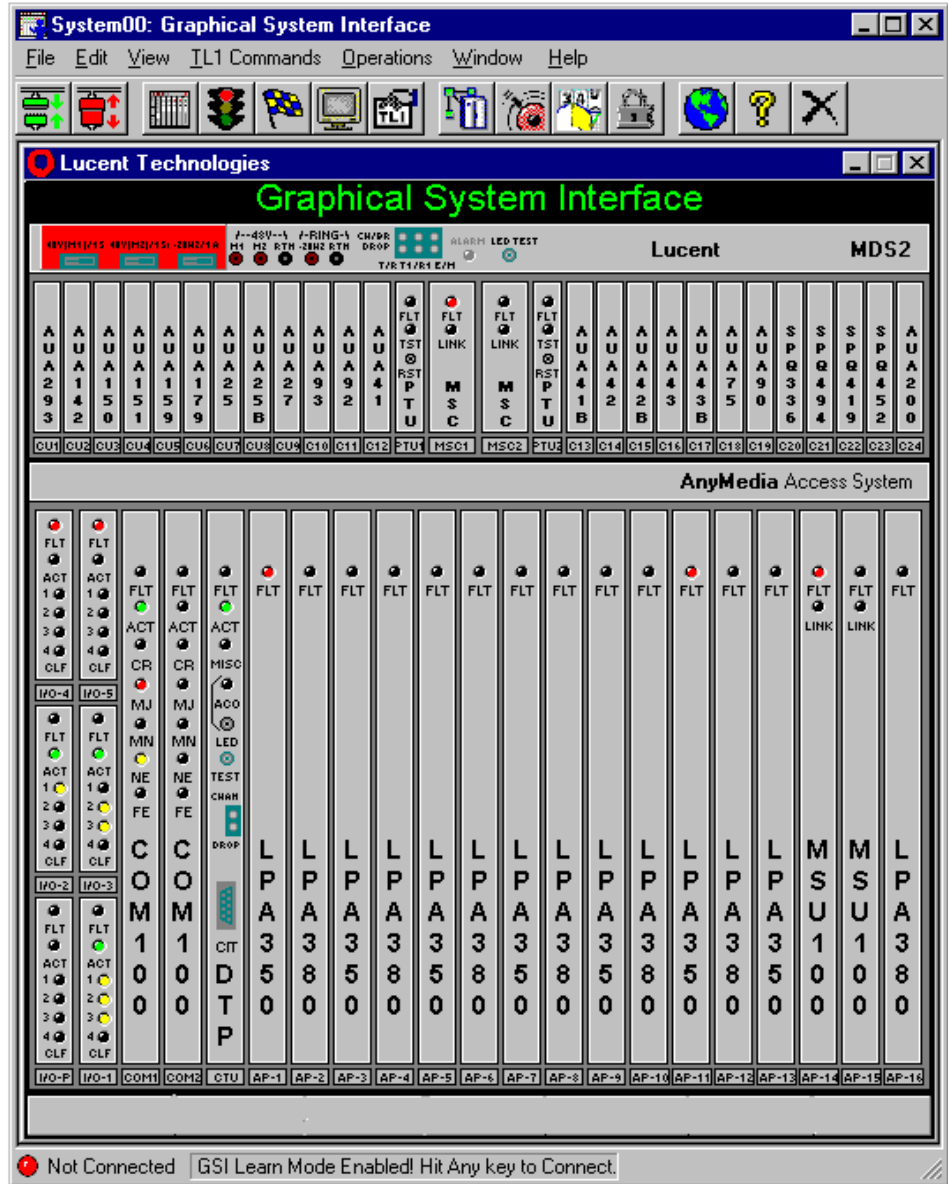
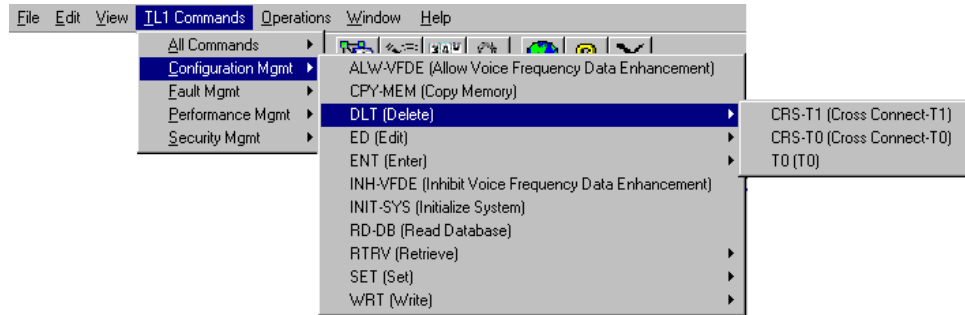
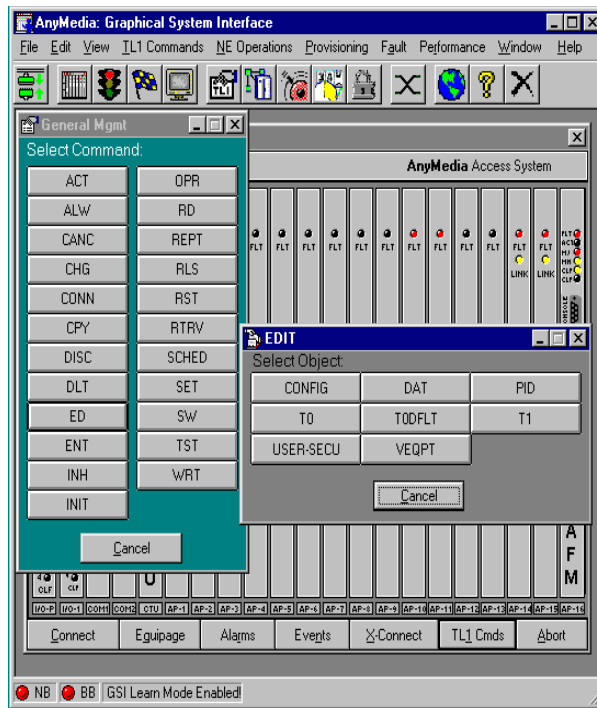

Figure 4-1. GSI Representation of AnyMedia Access System FAST Shelf and MDS2 Shelf
Figure 4-3. Pull-Down Menu for Selecting GSI Operations
Figure 4-4. TL1 Commands Window
- *AnyMedia* FAST shelf and MDS2 shelf, as shown in Figure 4-1 on page 4-4
Whether accessing the system remotely or locally, a technician using the GSI sees a graphical representation of the FAST shelf and MDS2 shelf as Figure 4-1 shows. The GSI has buttons and pull-down menus, which are used to monitor and manage the equipment, as Figure 4-3 shows. The technician can select a specific operation and run any of the TL1 commands for it with simple button clicks. The technician can also launch a TL1SI view window through the GSI and enter command-line messages.
The technician performs the system operations through the GSI by selecting an operation in a pull-down menu, as Figure 4-3 shows. This action can also be performed by selecting the **TL1 Cmds** button on the GSI, which launches a list of all the TL1 commands as buttons, as Figure 4-4 shows. The technician is then able to click on the TL1 command necessary to perform the operation.